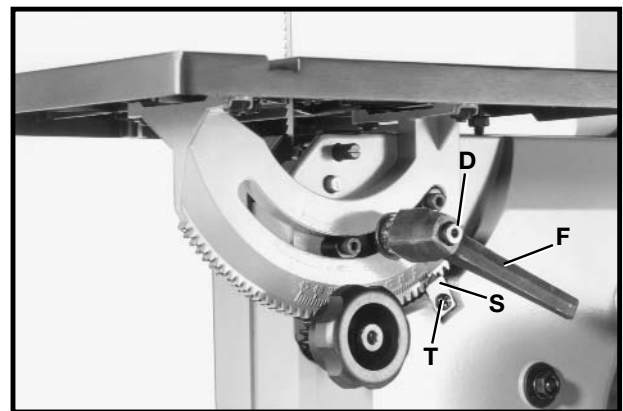

Fig. 11
8. Fasten pointer (S) Fig. 11, to the back of band saw using the M5x.8x10mm pan head screw (T).
9. Place locking handle (F) Fig. 4, onto stud (G). Place spring (E) Fig. 4, inside hole of lock handle and fasten in place with screw (D) as shown in Fig. 11. **NOTE:** Handle (F) is spring-loaded and can be repositioned on the stud by pulling out the handle and repositioning it on the nut.